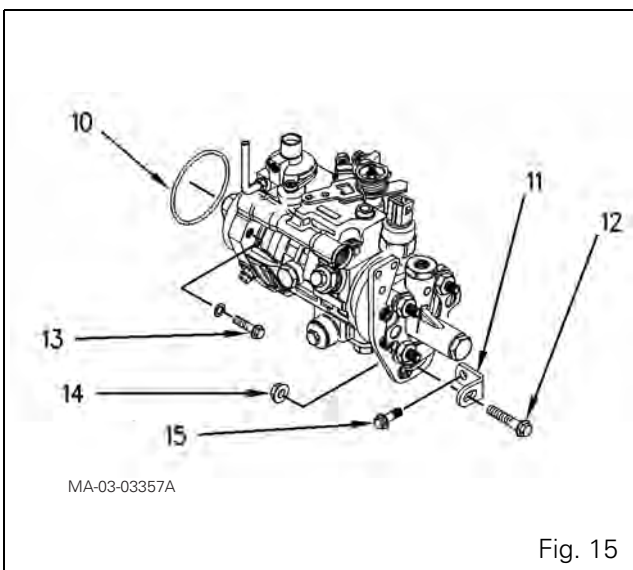

Fig. 15
79. Take out the nut (14) and screw (12) (Fig. 15).
80. If necessary, take out the screw (15) and the bracket (11) from the engine block.
81. Take out the screws (13) to remove the injection pump.
82. Remove the injection pump. Take off and discard the "O" ring (10).